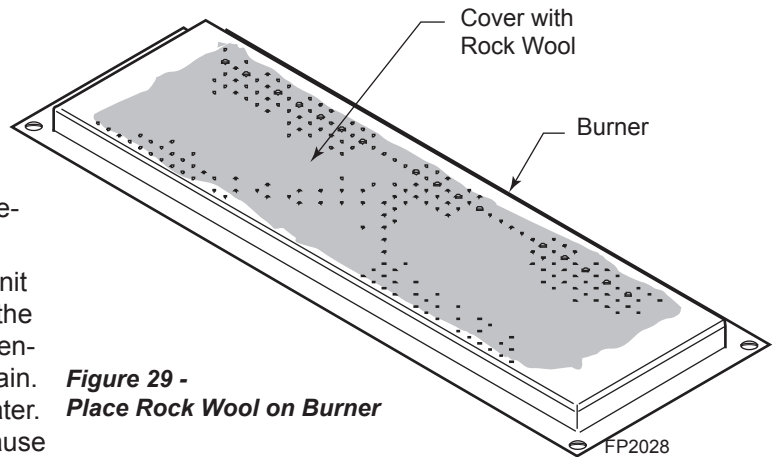

Figure 29 - Place Rock Wool on Burner
2. Distribute one layer of rock wool to cover the entire burner. *Figure 29*